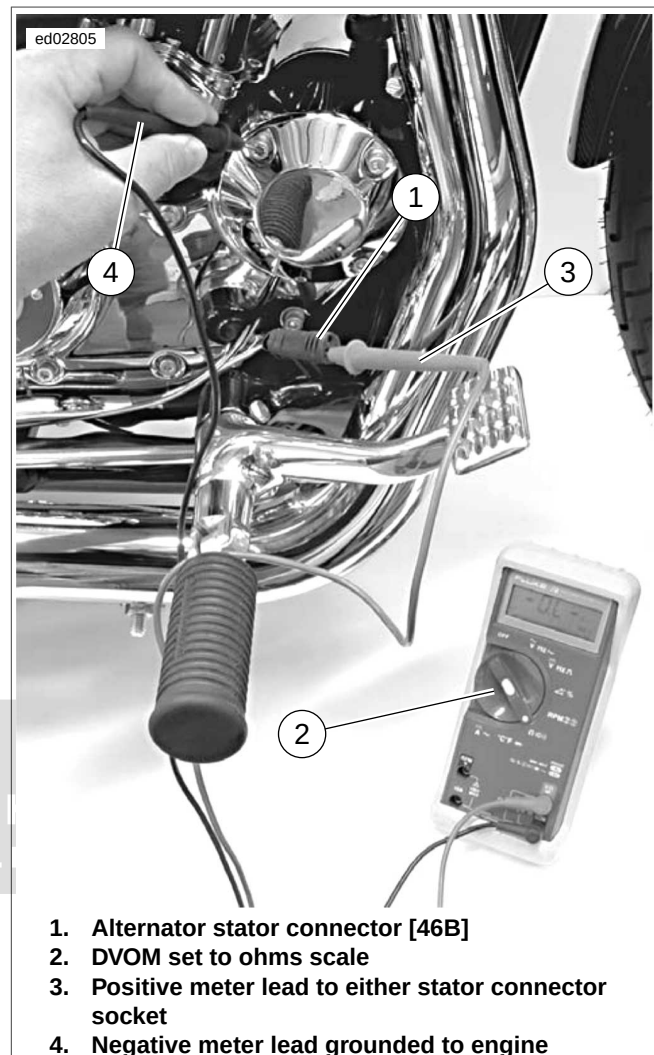
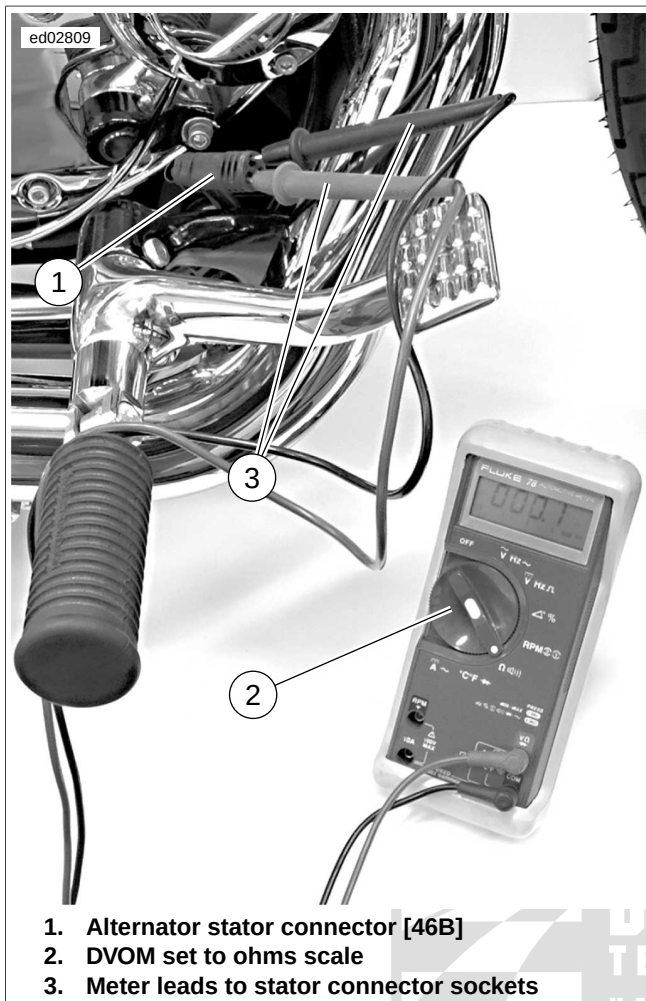

Figure 1-25. Test for Grounded Stator (Typical)
Figure 1-26. Check for Stator Resistance (Typical)
- b. See Figure 1-25. Insert one ohmmeter lead into a stator connector (1) socket.
- c. Attach the other lead to a suitable ground (4).
3. Test for continuity with ohmmeter set to the ohms scale (2).
4. See Figure 1-26. Remove ground lead. Check resistance across stator sockets.